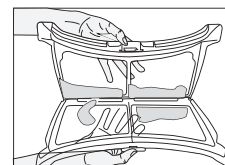

Fig7
- 3.Clean lint,fibre,and cotton raveling by hand or with a soft piece of cloth (Fig7,8).